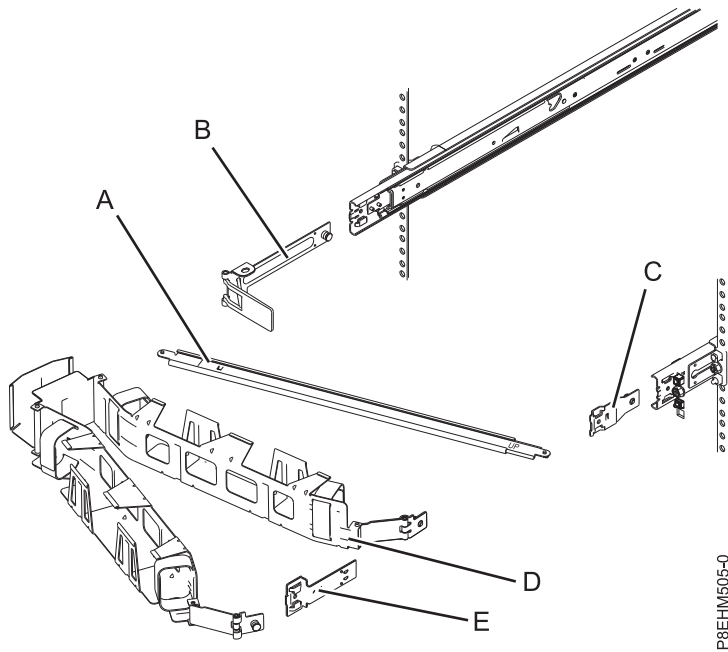

Figure 9. Relative positions of the parts of the cable-management arm before assembly
1. Ensure that you have the following parts. Refer to Figure 9.